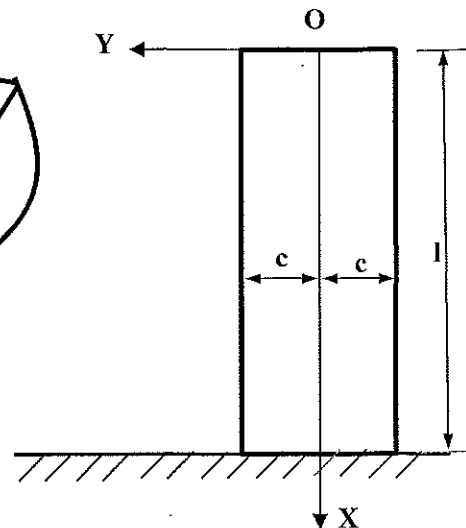

Figure Q2
- (ii) A concrete gravity dam of rectangular cross section is shown in Figure Q2. It is subjected to water pressure load (Specific weight of water is  $q$ ), and its self-weight (Concrete specific weight is  $q_1$ ). It is in a state of plane strain and following stress field was found using a mathematical function.